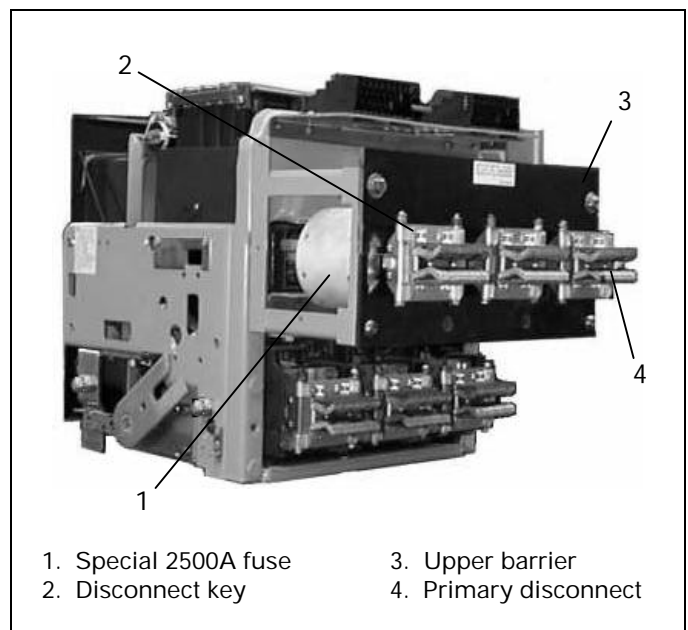

Fig. 5-14. EGF-16 breaker with special 2500-ampere fuse
A special fuse is available for use with EGF-16 breakers. This fuse provides a melting time-current characteristic that coordinates with 1600A trip electronics. Compared physically with a 2500A, NEMA Class L fuse, the special fuse is more compact (shorter) and its tangs are specially configured and offset to achieve the required pole-to-pole fuse spacing. A special primary disconnect assembly mounts directly on the outboard tang of the fuse. Because of their unique mounting provisions, the following procedure should be adhered to when replacing these fuses (Fig. 5-14):
1. Remove the primary disconnect assembly from the fuse tang. This is accomplished by first loosening the two keys (2), Fig. 5-14, via their holding screw and pulling them upward and out. After the keys are removed, pull the disconnect assembly off the end of the fuse tang.